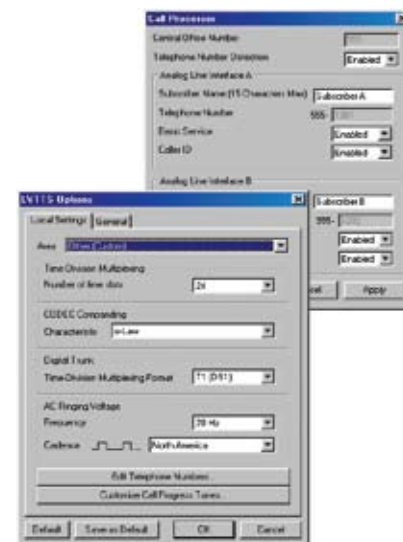

Fig. 3
- Change various system settings and options, such as the telephone ringing cadence, companding type, subscriber names and phone numbers, etc. (see Figure 3).